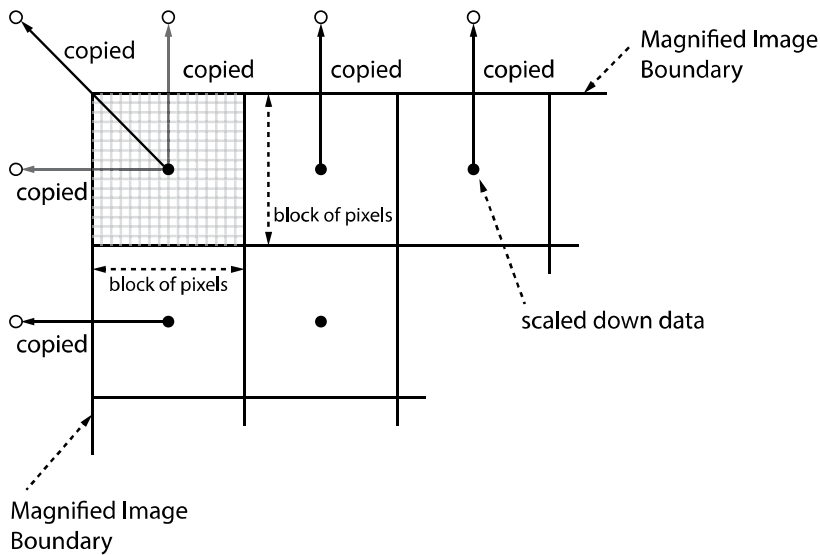

Figure 9-9 Bilinear Interpolated Magnification
3. Execute the **Flat Field Data Save** parameter to save the generated Flat Field data into the non-volatile memory. When the scaled down Flat Field data are used for correction, they are expanded and applied with a Bilinear Interpolation as shown in the **Figure 9-9**.